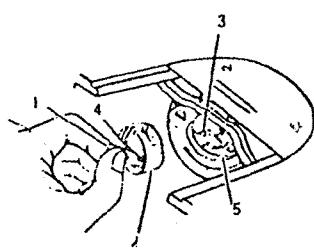
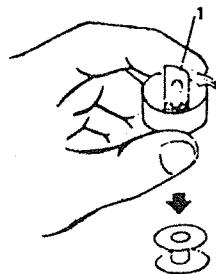

Fig. 8
Fig. 9
- 1) With left hand beneath machine bed, open bobbin case latch lever 1 by forefinger and hold it together with thumb (see Fig. 8), pull out bobbin case 2. Release the latch lever and the empty bobbin will drop out of the bobbin case (see Fig.9). Place wound bobbin 1 into bobbin case 2 (see Fig.10), let the thread tip be out of the case. Then, set the thread tip into the slot on bobbin case 2 and under the tension spring 3,in the center of the spring notch (see Fig. 11). Draw about 100mm of thread out of the bobbin case with which to start sewing.
2) While holdin bobbin case latch 1 with forefinger and thumb(see Fig.8)to make the latch catch the wound bobbin, fully press in bobbin case 2 onto center stud 3 of shuttle 5 , turn the balance wheel to make sure that bobbin case latch 4 is locked on the groove of center stud 3.